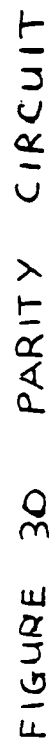

FIGURE 30 PARITY CIRCUIT
c. A schematic for the parity error circuit is shown in Figure 30.